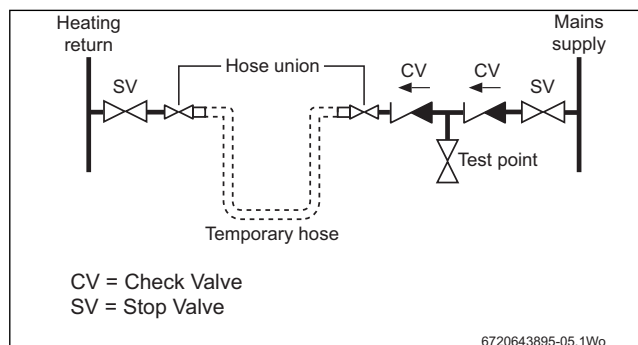

Fig. 7 System fill
- The CH sealed system must be filled using a WRAS approved filling loop or comply with figure 7 for system fill.
- Where the system volume is more than 100 litres or exceeds 2.65 bar at maximum heating temperature, an extra expansion vessel (2) must be fitted as close as possible to the appliance in the central heating return.
- Pressurise the extra expansion vessel (2) to the same figure as the expansion vessel built into the appliance.